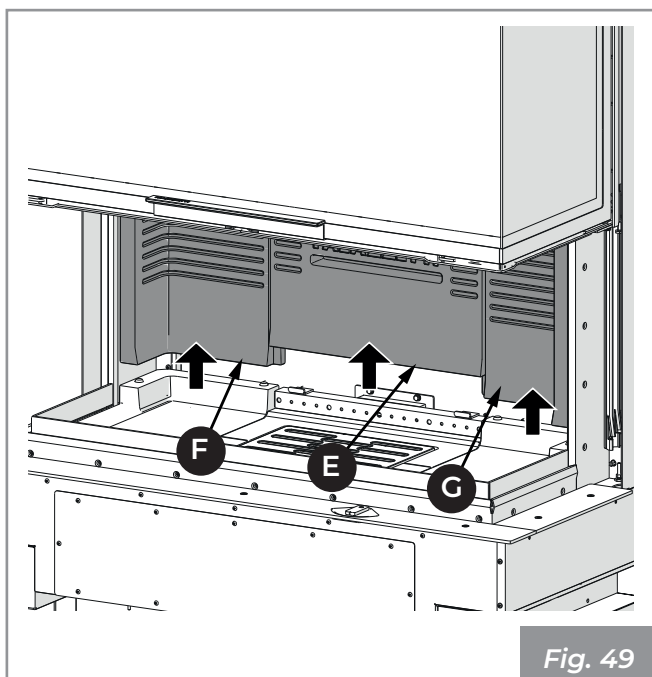

Fig. 49
- 5) Lift and extract first the central refractory back panel (E) and then the side ones (F, G) (Fig. 49).